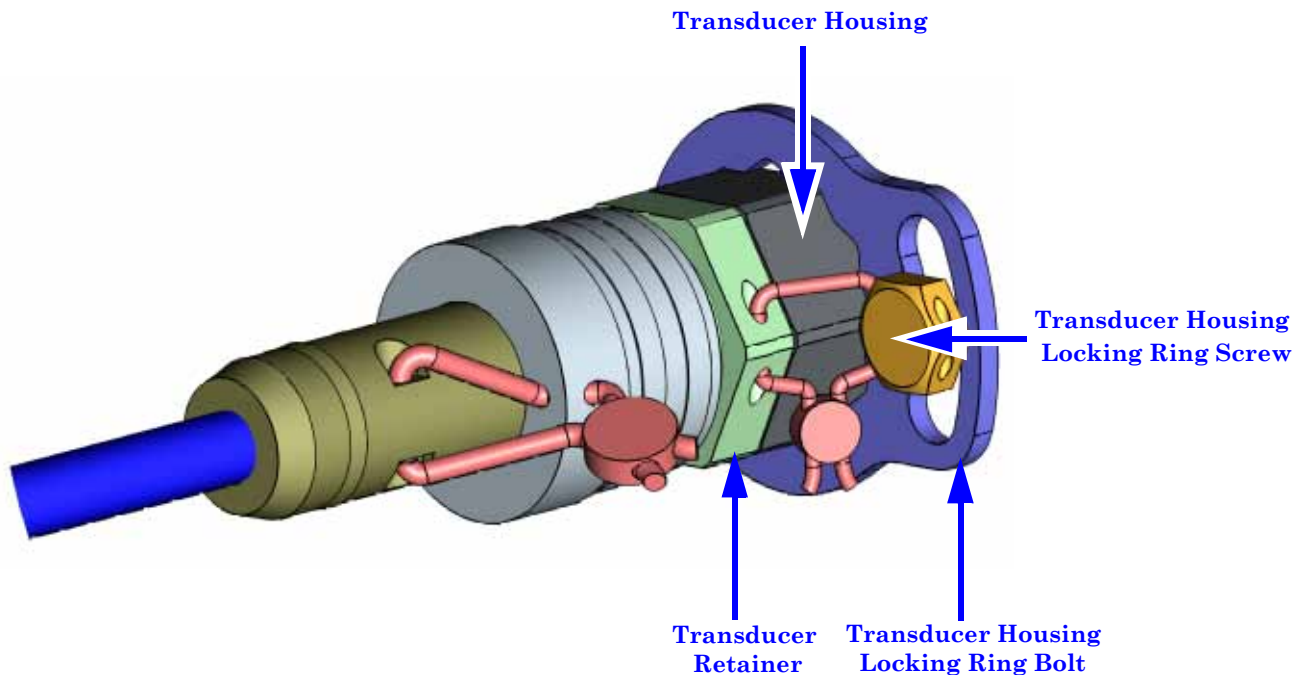

Figure 3-29 Transducer Housing, Retainer, and Locking Ring Security Seal
2. For each Transducer Assembly, install a security seal wire into and through one of the two holes of the Locking Ring bolt and through one of the two holes in the Transducer Retainer. Choose holes that minimize counterclockwise rotation of the Locking Ring bolt and the Transducer Retainer when security wire is taut (maximum wire diameter .06 inch; 1.5mm) (see Figure 3-29).